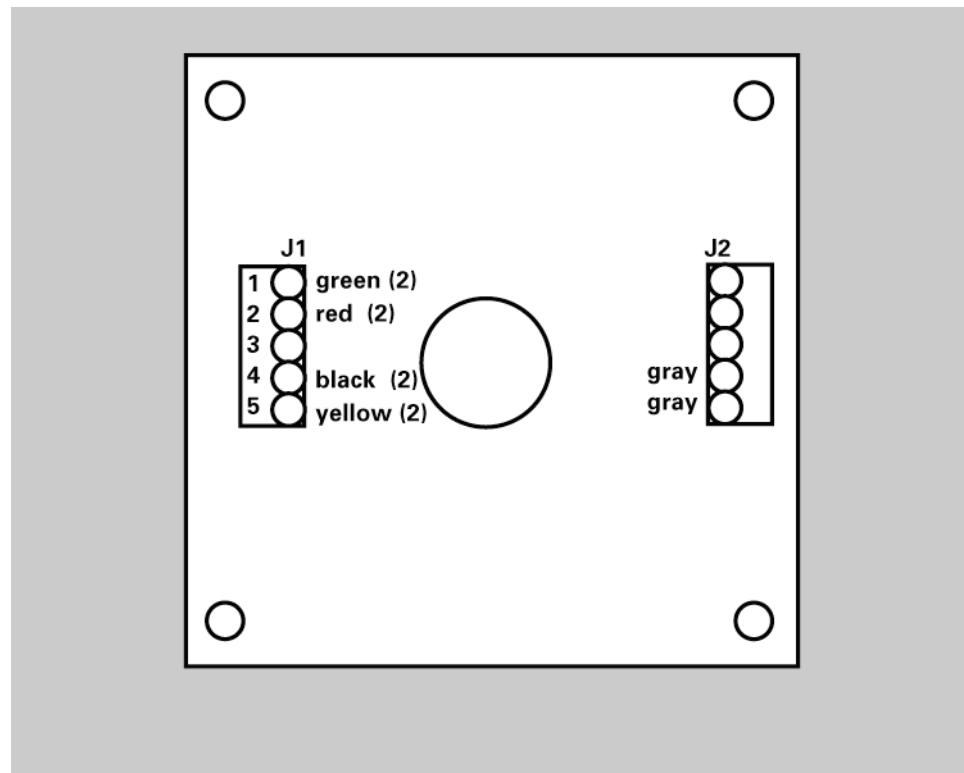
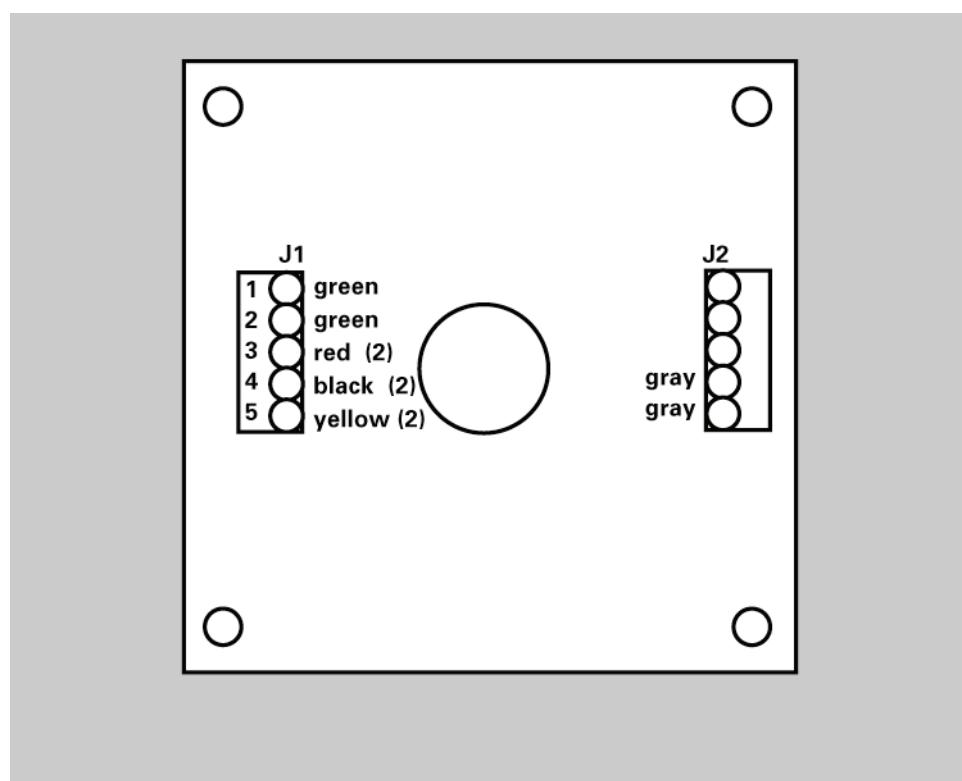

Figure 38
Figure 39
4. For a parallel connection, connect the cable conductors of both cables to terminal block J1 on the PCB of switch enclosures #1 as shown in Figure 38. The (2) indicates that two green wires will join together in terminal 1 of J1, etc. For a series connection, connect the wires as shown in Figure 39.